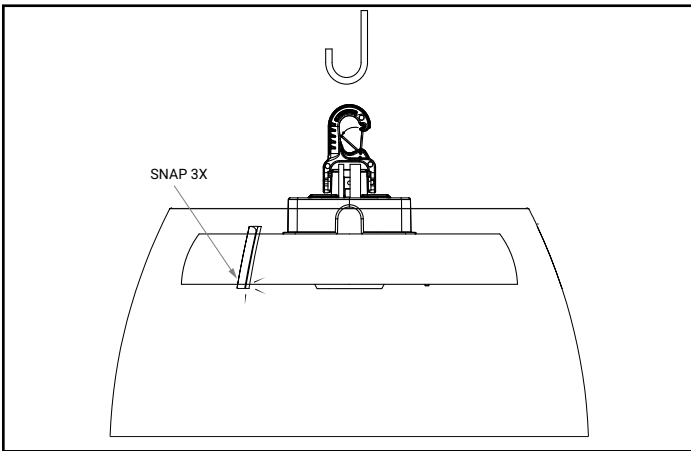

Figure 3.
4. Once set over the fixture, ensure the shade snaps into place to secure. (Figure 3)